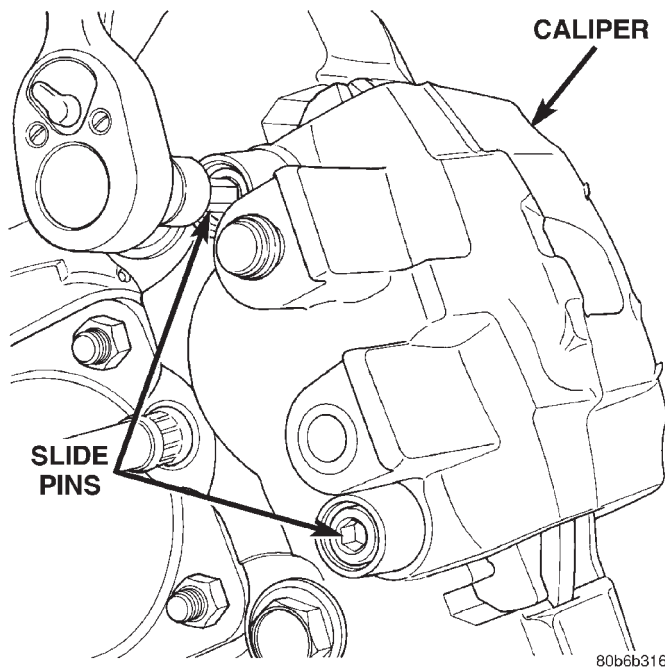

Fig. 39 Caliper Slide Pins
- (6) Remove the caliper slide pin bushing caps and remove the slide pins (Fig. 39).